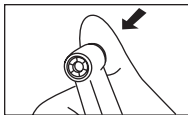

Fig. 1
(1) Attaching
- Press the push button to open the chuck. (Fig.1)